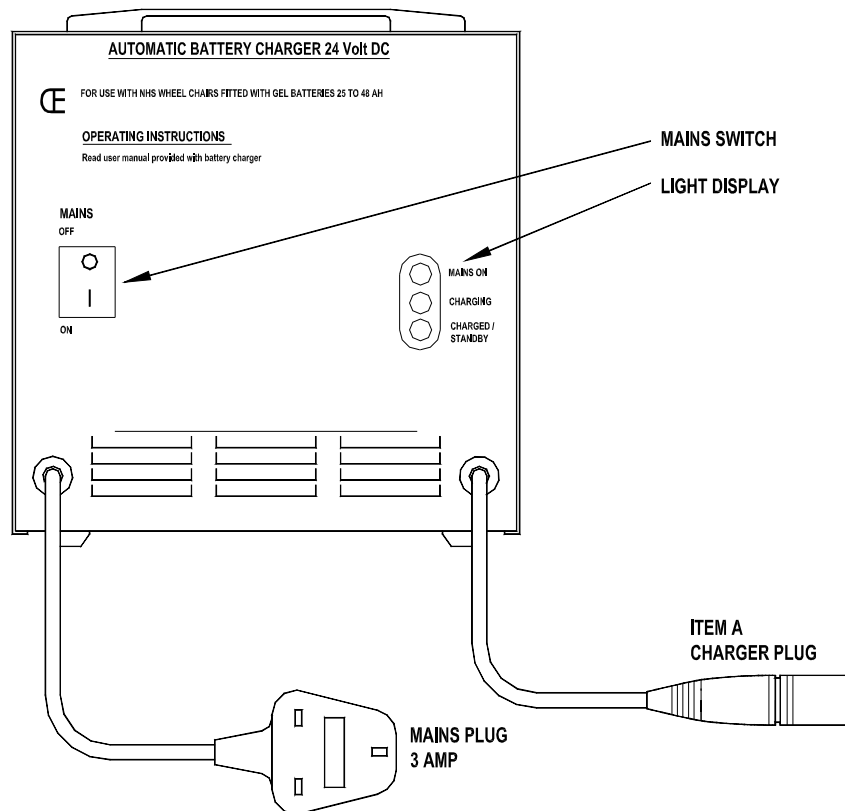
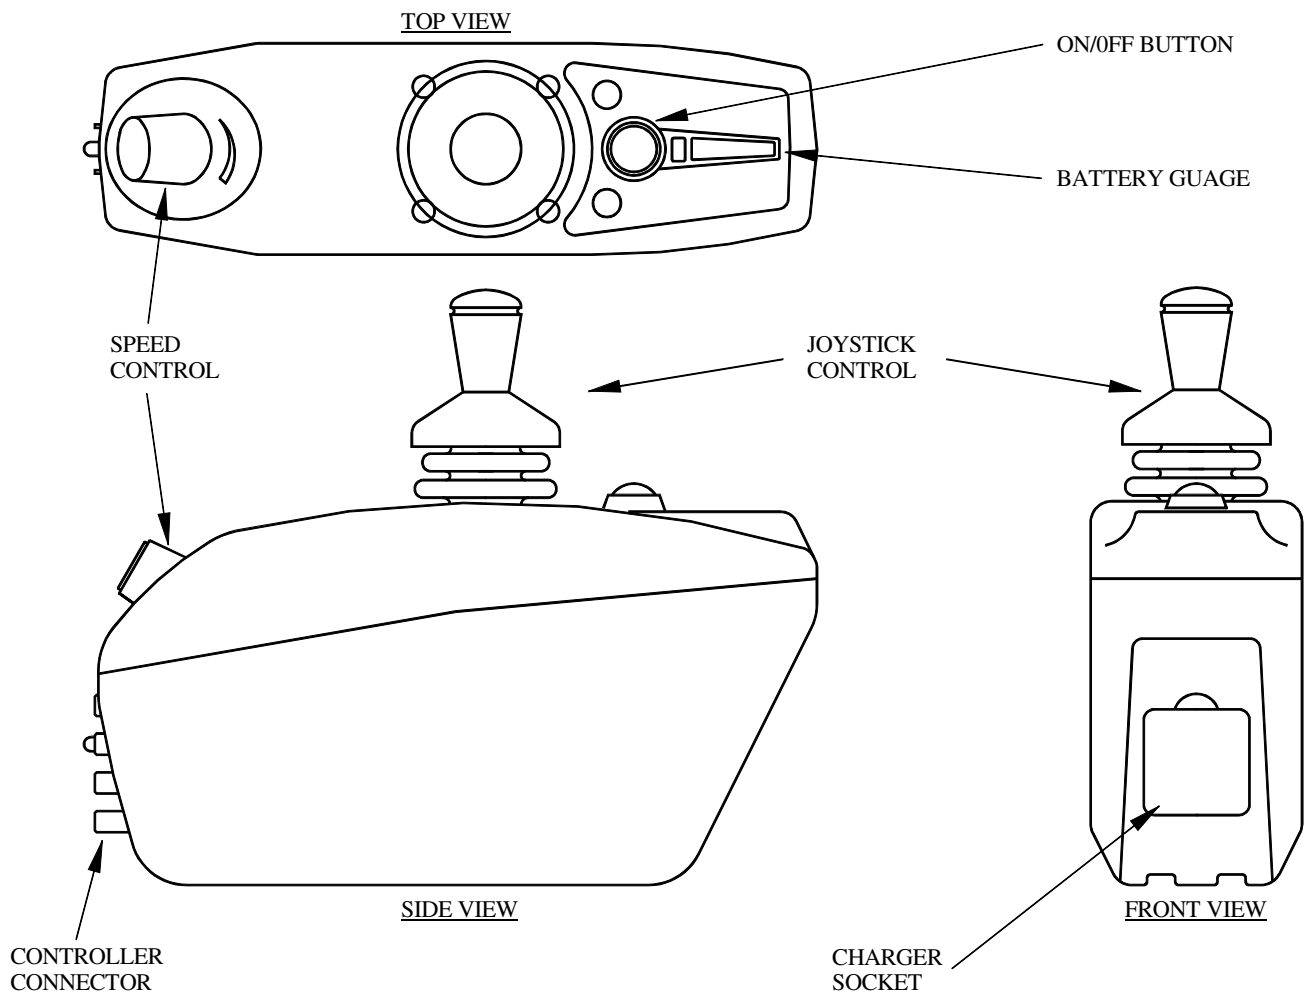

FIG.8.
FIG.9.
The charger also has a plug fitted to connect your charger to your wheelchair controller. See 'Item A' in figure 8.
3. Connect the charger output plug, 'Item A' in figure 8, to the wheelchair charger socket. See figure 9.
This is a green pushbutton switch fitted in front of the joystick which turns the controller on and off. **Do not** use this switch to stop the wheelchair except in an emergency. See figure 9.
This is a 10 segment illuminated display which indicates if the controller is turned on and also gives the status of the battery, the controller and the wheelchair electrical system. See figure 9.
Controls the speed and direction of the wheelchair. Push the joystick in the direction you wish to go. The further you push it, the faster the speed. Releasing the joystick stops the wheelchair automatically. See figure 9.
Sets the maximum speed of the wheelchair: turn clockwise to increase the speed, anti-clockwise to decrease. See figure 9.